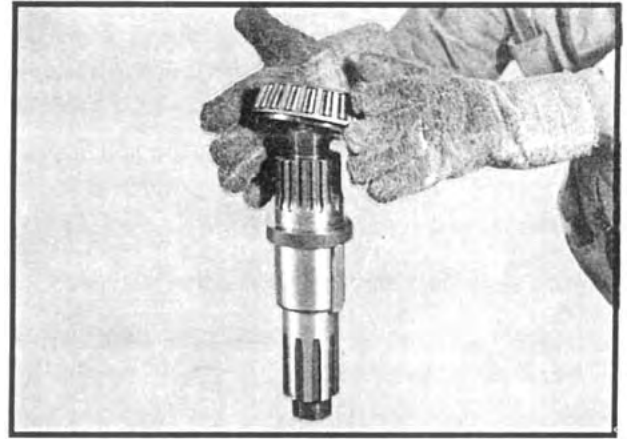

Fig 42
2. Heat and install the bearing cone assembly on the end of the shaft closest to the shoulder. See Figure 42.